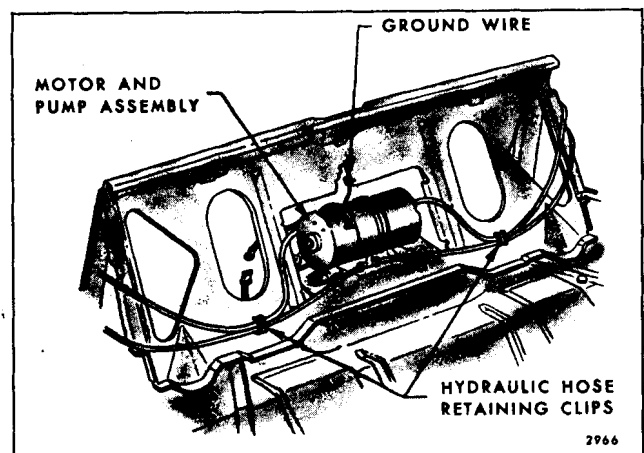

Fig. 12-17-Motor and Pump Installation
The high pressure hydro-lectric unit used in the convertible bodies, consists of a 12 volt reversible type motor, a rotor-type pump, two hydraulic lift cylinders, and an upper and lower hydraulic hose assembly. The unit is installed in the body directly behind rear seat back support (Fig. 12-17).
7. To facilitate removal, apply a rubber lubricant to pump attaching grommets; then carefully disengage grommets from rear seat back support (Fig. 12-17).
any leaking fluid, then remove unit from rear compartment (Fig. 12-17).
1. Check connection of motor ground wire to body metal (See Fig. 12-17).